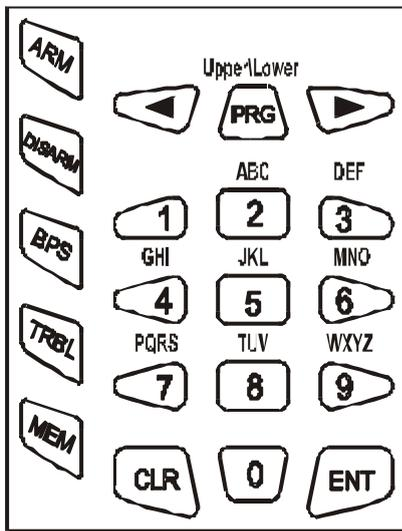

Fig. 1 LCD keypad
4. The LCD keypad buttons are shown in Fig. 1.
Both figures and letters can be keyed in. The letters and their respective figure correspondence are showed in Fig. 1.